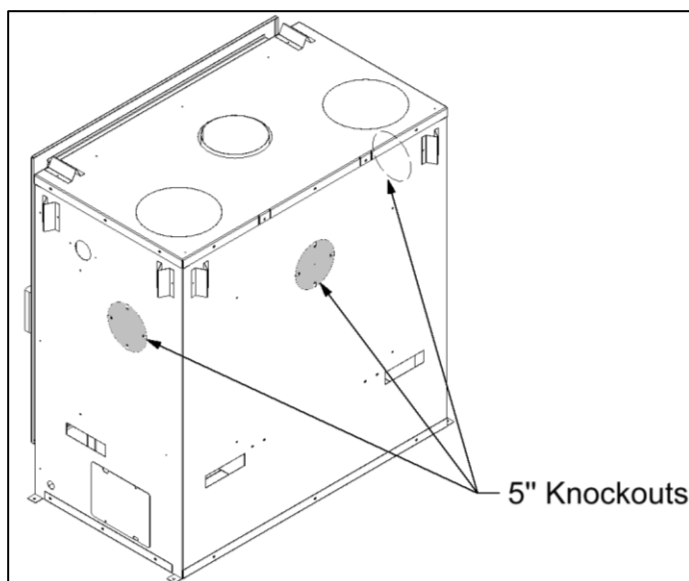

Figure 4-1: Hot Air Kit Knockouts
1. Remove the 5" knockout on the exterior casing of the fireplace using a flat head screwdriver (Figure 4-1).